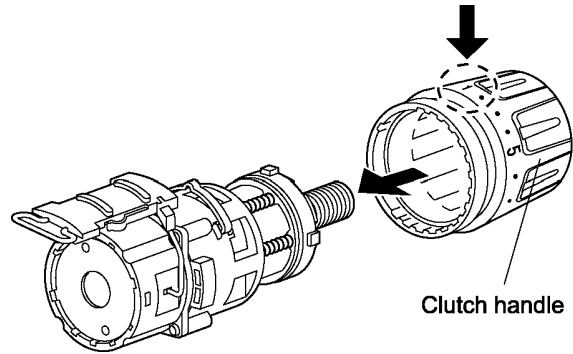

Fig. 14
3. Set the clutch handle with position 1 on top. (See Fig. 14)